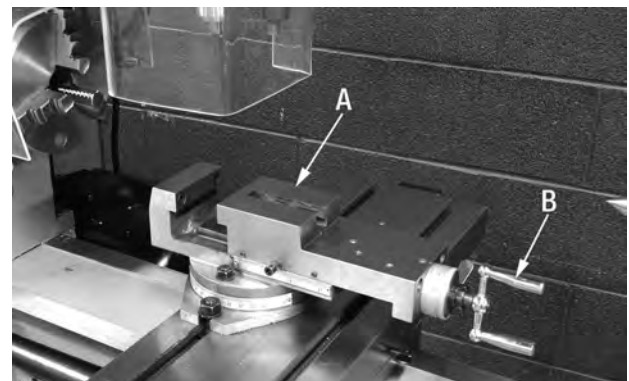
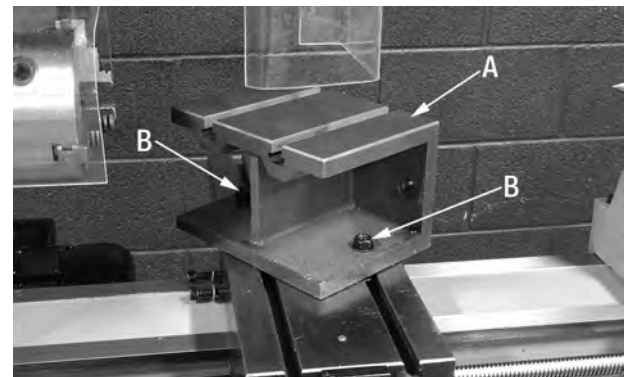

FIGURE 43
FIGURE 44
This machine comes with a vise (A) Fig.43 that also serves as the compound slide for Metal Lathe operation. The 4-way tool post and the tool post safety guard must be removed before using the vise. To open or close the vise jaw, turn handwheel (B).
An optional Elevating block (A) Fig.44 is available (model KM-124), the vise (A) Fig.43 must be completely removed. The Elevating block gets installed to the cross slide T-slots as shown with the same t-bolts and hex. nuts (B) Fig.44 used to secure the vise.